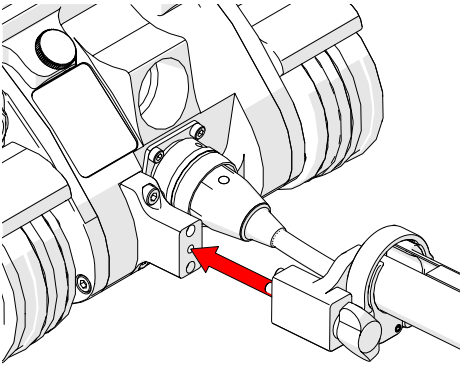

Fig. 201 - Align with umbilical
1. Align the cable management clamp with the appropriate mounting position on the scanner (*Fig. 201*).